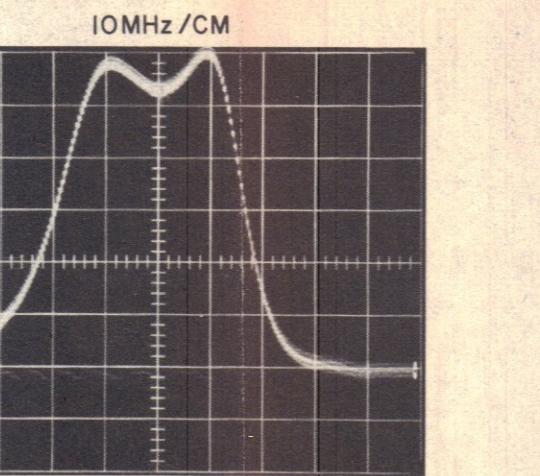
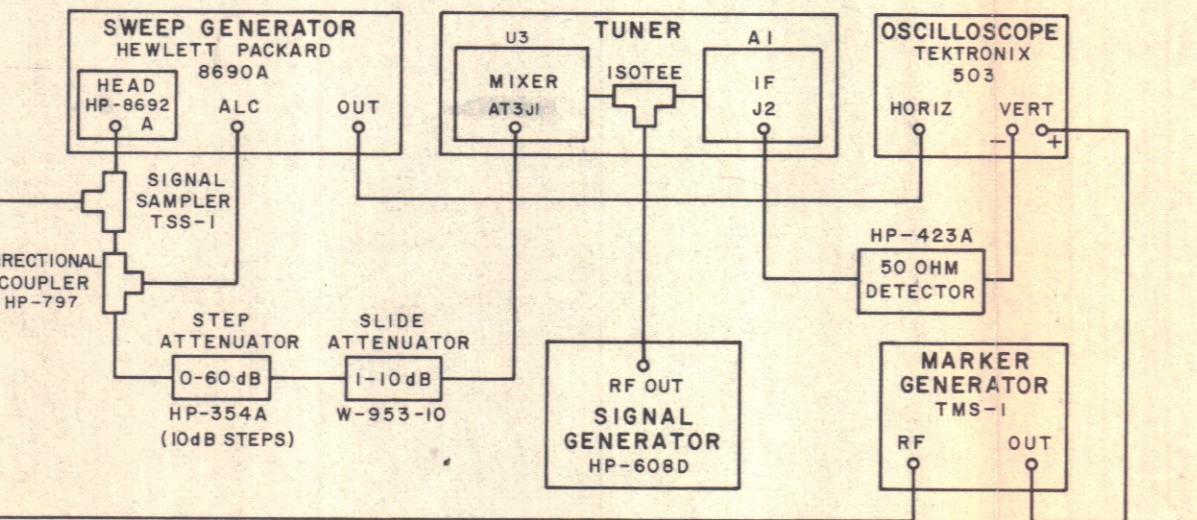
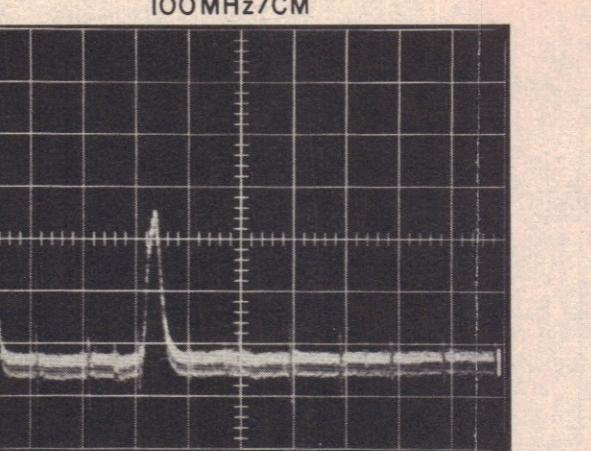

Figure 4-1c. Typical Response, IF Preamplifier
Figure 4-1b. Equipment Connections, Mixer, LO, IF Preamplifier (YIG Filter Bypassed)
Figure 4-1f. Typical Band Response, VFO to Tape Dial Tracking
- (1) Connect the equipment as shown in Figure 4-1b, page 4-12.
- (2) Set the sweep generator controls for a $2100 \text{ MHz} \pm 100 \text{ MHz}$ sweep. Tune the TH-245B to 2100 MHz and adjust the oscilloscope and microwave attenuator controls to obtain a suitable display.
- (3) Set the HP-608 for 160 MHz markers and the TMS-1 for 10 MHz markers.
- (4) Adjust A2C11, A2C9, A2C16, and A2C22 for a maximum amplitude symmetrical response centered about the 160 MHz marker. A typical response is shown in Figure 4-1c, page 4-12.
- (5) The bandwidth should be a minimum of 22 MHz and a maximum of 25 MHz at the 3 dB points.
- (6) Tune the sweep generator and TH-245B simultaneously throughout the band and note the response variation. If excessive tilt occurs anywhere in the 2-4.5GHz band, a slight compromise in the settings of step (4) adjustments should be used to obtain the flattest overall response.
- (2) Tune the TH-245B to 2000 MHz and carefully loosen the set-screws in the flexible coupling which connects the VFO to the gear train.
- (3) Adjust the sweep generator controls to sweep from 2 to 4.5z GHz and the oscilloscope and attenuators to display a response similar to Figure 4-1f. Set the TMS-1 for 100 MHz markers.
- (4) Identify the response that is lowest in frequency. Without moving the tape dial from 2000 MHz, carefully rotate the VFO tuning shaft and move the response to the 100 MHz marker representing 2000 MHz.
- (5) Set the sweep generator for a narrow sweep mode of 2000 MHz \pm 100 MHz.
- (6) As in step (4), carefully center the response about the 2000 MHz marker. Figure 4-1c shows a typical response. Tighten the flexible coupling setscrews.
- (7) Adjust the sweep generator controls for a 4500 MHz \pm 100 MHz sweep. Note the relationships between the displayed response and the 4500 MHz marker. If the response is not centered, loosen the setscrews in the flexible coupling and carefully rotate the VFO shaft to remove one half of the error. Tighten the setscrews. The tape dial to frequency error should be no more than 1%, i.e., \pm 45 MHz at 4500 MHz and \pm 20 MHz at 2000 MHz. Errors in excess of this indicate a faulty VFO. With the end frequencies set correctly, the VFO to tape dial tracking should be satisfactory.
- (8) Verify the correct VFO to tape dial tracking at 200 MHz intervals throughout the band by identifying the correct marker, adjusting the sweep generator and TH-245B tuning to the correct frequencies, and noting the response to frequency marker relationships.